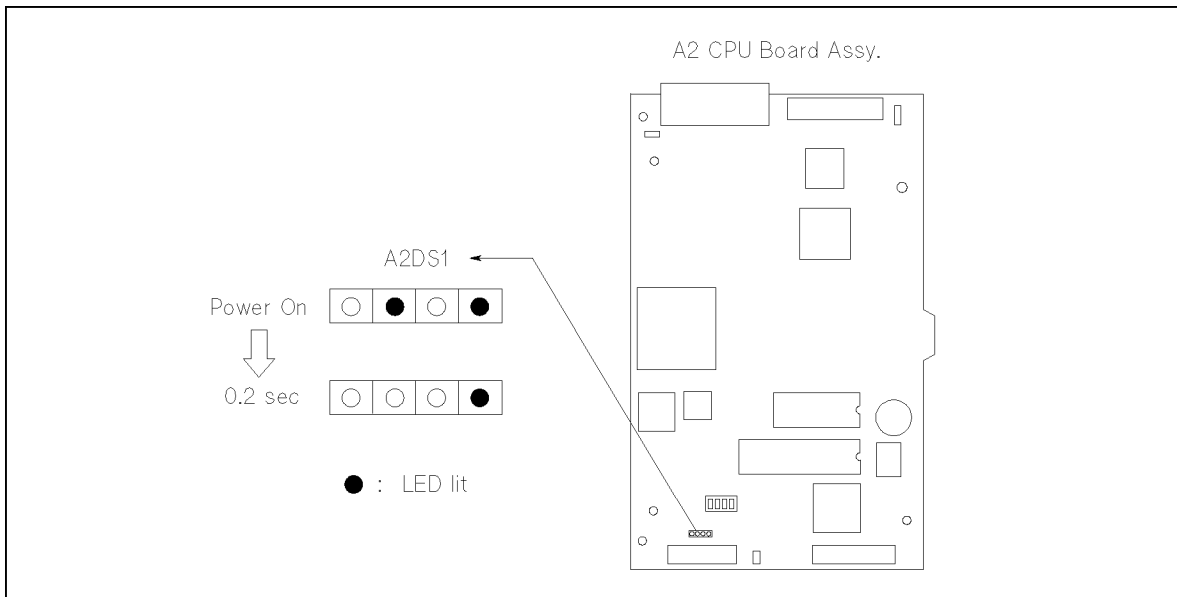

Figure 4-12. CPU Board Assembly LED Light Sequence
2. Check if the LED “+5V” of DS1 on the A2 CPU Board Assembly lights. Refer to Figure 4-12 for DS1 location.
3. Check if the LEDs light in the sequence shown in Figure 4-12.